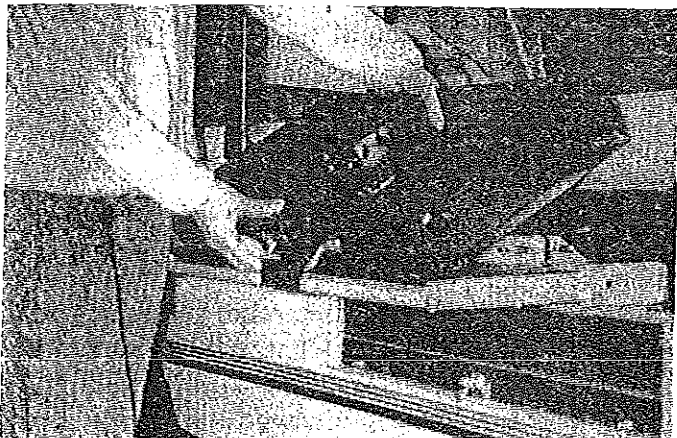

FIGURE 38
- D. Disengage the storage tray from its front retainer by lifting the tray at the rear (see Figures 38 and 39) and slide the tray into the metal glides located directly beneath the stove shelf.